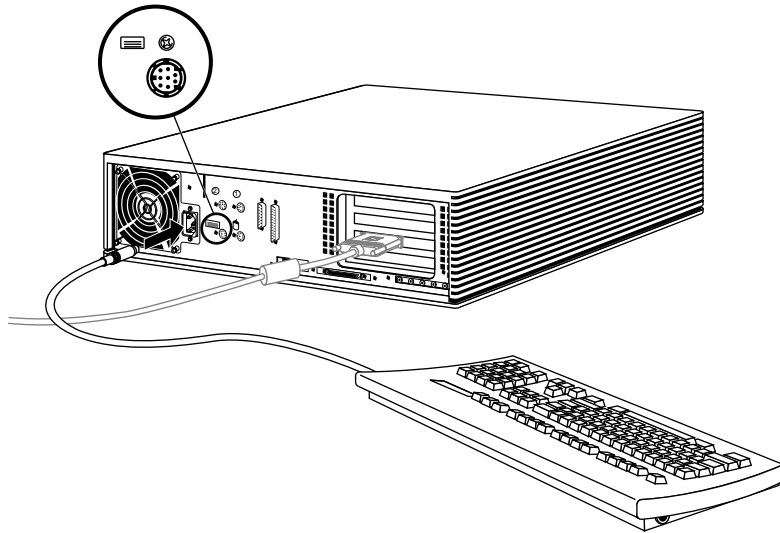

Figure 2-11 Connecting the Keyboard Cable
2. Connect the keyboard cable to the connector below the keyboard icon on the back of the Indigo² IMPACT workstation, as shown in Figure 2-11.